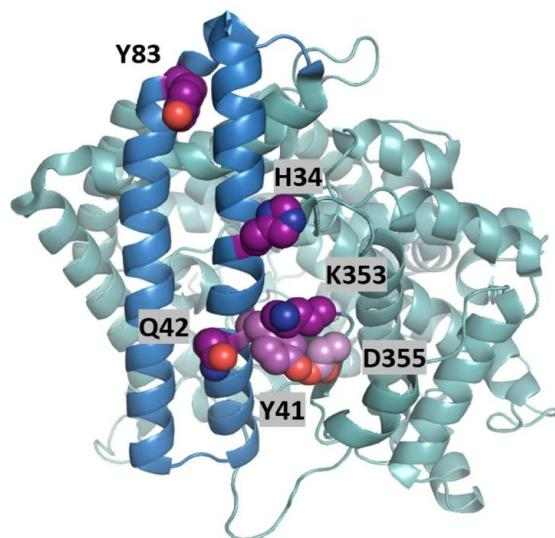

Figure 1: ACE2 interface where interesting residues from the computational alanine scanning are shown as spheres
In Figure 1, you have a partial vision of the interface between receptor and the chemokine. Here, you are requested to design one mutation (specifically on the CXCR4 side) that aims at stabilizing the binding between CXCR4 and CXCL12. Please explain the logic behind it.
Figure 1. Extracellular loop 3 region of CXCR4 (light blue) and N-terminal region of CXCL12 (green). Residues belonging to CXCR4 that are within 5 Å from the chemokine are highlighted in Magenta. Hydrogens are shown in white.
b) Shown below is the structure of ACE2 where residues that contribute strongly to binding the spike RBD are highlighted in sphere representation (Fig. 1). Out of the highlighted residues, H34, Q42, and K353 were chosen for computational saturation mutagenesis (Fig. 2). Which of the positions (H34, Q42, or K353) would you choose to mutate if you aim to optimize the binding interface between ACE2 and the RBD? And which of the mutations shown in Fig. 2 would you use as a starting point for design that would optimize the binding interface? Justify your answer.